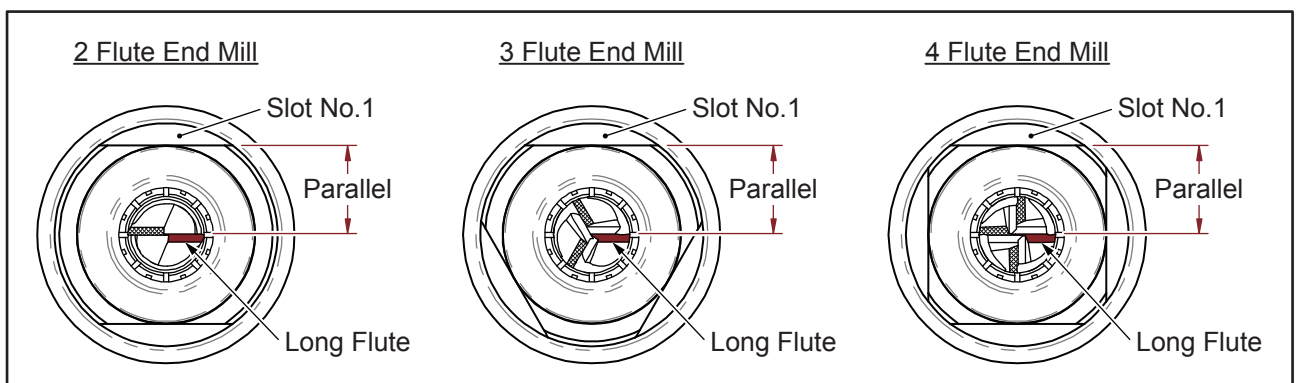

Fig. 5-4
4. Turn the long flute of the End mill to be parallel with the Slot No.1 of the clamping nut. (Fig. 5-4)
- ① Insert the Chuck set into the Positioning shelf, align Slot No.1 of the clamping nut with the pin on the Positioning shelf, then connect it closely without any interval and turn it clockwise to the end.
- ② Push the End mill to the end and turn it clockwise until the long flute is blocked by the Position block.
- ③ Turn the collet holder clockwise and tighten lightly the Chuck set.
- ④ Rotate the Chuck set counterclockwise and take it out gently.
- ※ *Make sure the long flute must be parallel with Slot No.1 of the clamping nut (See page 10, Fig. 5-4), if it is not parallel, please operate again the entire positioning procedure.*